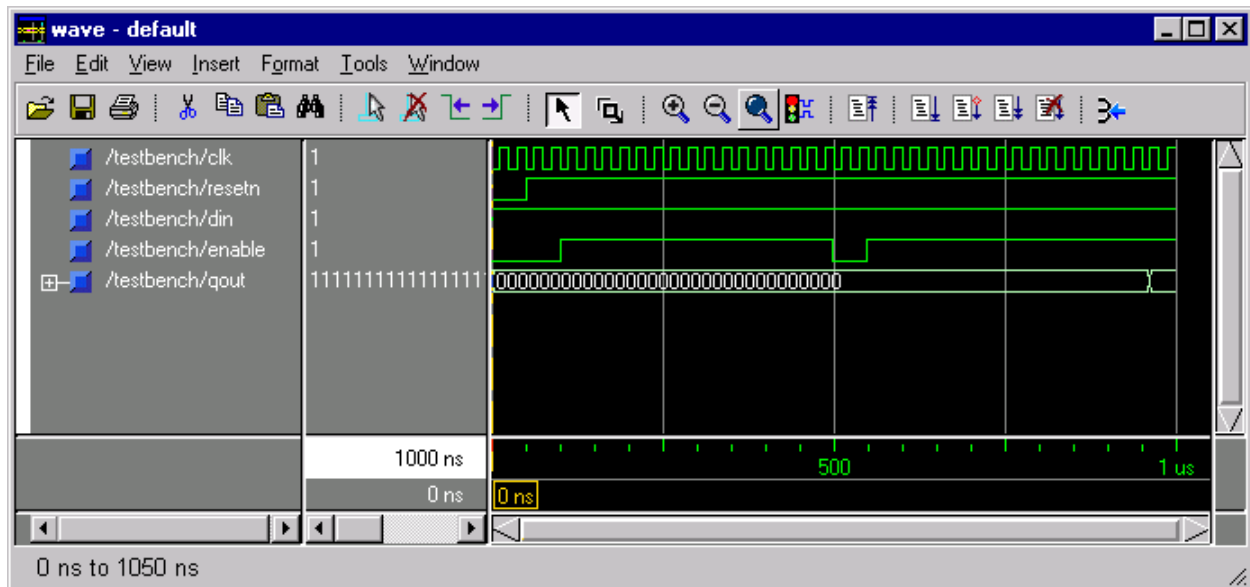

Figure 28 – ModelSim for Actel Wave window for top
3. When the compilation completes, the simulator will run for 1 us and a Wave window will open to display the simulation results (Figure 28). Scroll in the wave window to verify the counter functions properly.